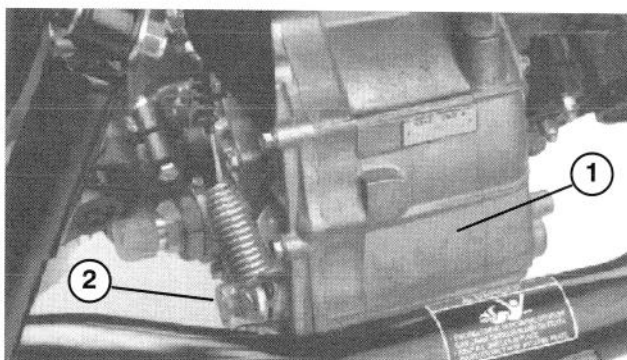

Figure 37
## CHANGING TRANSAXLE / HYDRAULIC FLUID (Fig. 37)
2. Remove drain plug (Fig. 37) from side of reservoir and let hydraulic fluid flow into drain pan.